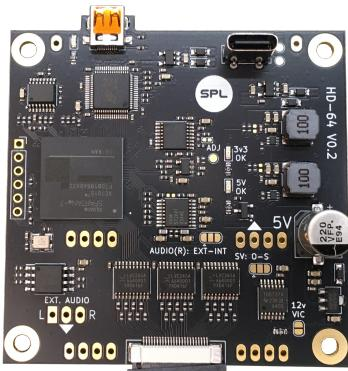

Figure 1. HD-64 (Top)
1. 1x HD-64 main board (Figure 1)